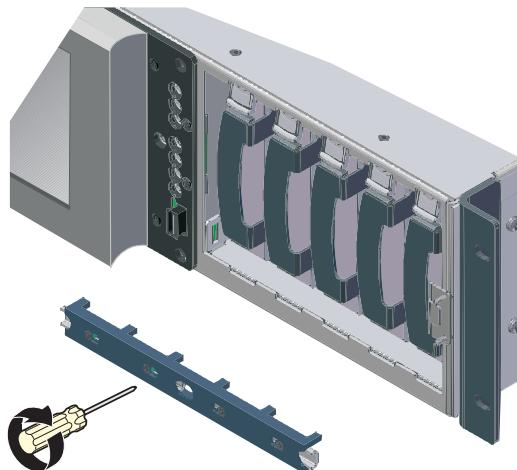

Figure 3-9 Reinstall Retaining Bracket
8. Position the retaining bracket in front of the hard drives, lining it up with the screw holes, and slide the screws outward to their original position. Next, use a Phillips screwdriver to tighten the four screws and secure the drives, as shown in Figure 3-9.